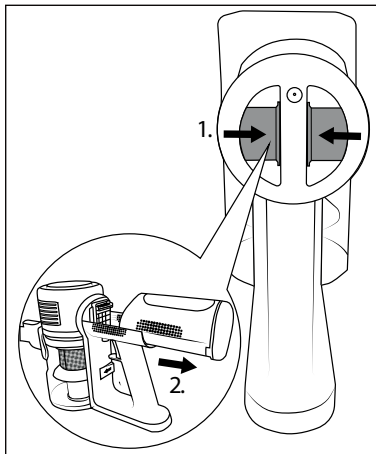

Fig. 12
- ◆ To remove the battery **2** from the appliance, press and hold the battery release **1** and pull the battery **2** out of the appliance (see Fig. 12).